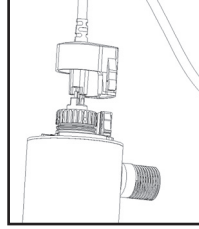

FIGURE 2A
2. Disconnect main power source and allow the unit to power down for 30 sec. Remove the lamp connector by squeezing the plastic locking tabs on the side of the connector. Remove connector and lamp from the reactor chamber and lamp connector base. Separate the lamp from the connector (Figure 2A). Do not twist the lamp from the connector, simply slide the two apart. Avoid touching the lamp on the glass portion. Handling the lamp at the ceramic ends is acceptable, however if you must touch the lamp glass, please use gloves or a soft cloth. Fully remove the lamp from the reactor chamber being careful not to angle the lamp as it is removed from the chamber. If the lamp is removed on an angle, pressure will be applied on the inside of the quartz sleeve, causing the sleeve to fracture.
3. To install a new lamp, first remove the lamp from its protective packaging, again being careful not to touch the lamp glass itself. Carefully insert the lamp into the reactor vessel (actually inside the quartz sleeve) (Figure 2B). Insert the lamp fully into the chamber leaving about two inches of the lamp protruding from the chamber. Next, attach the connector to the UV lamp (Figure 2A). The connector will only allow correct installation in one position. Ensure the connector is fully seated onto the UV lamp (Figure 2C).